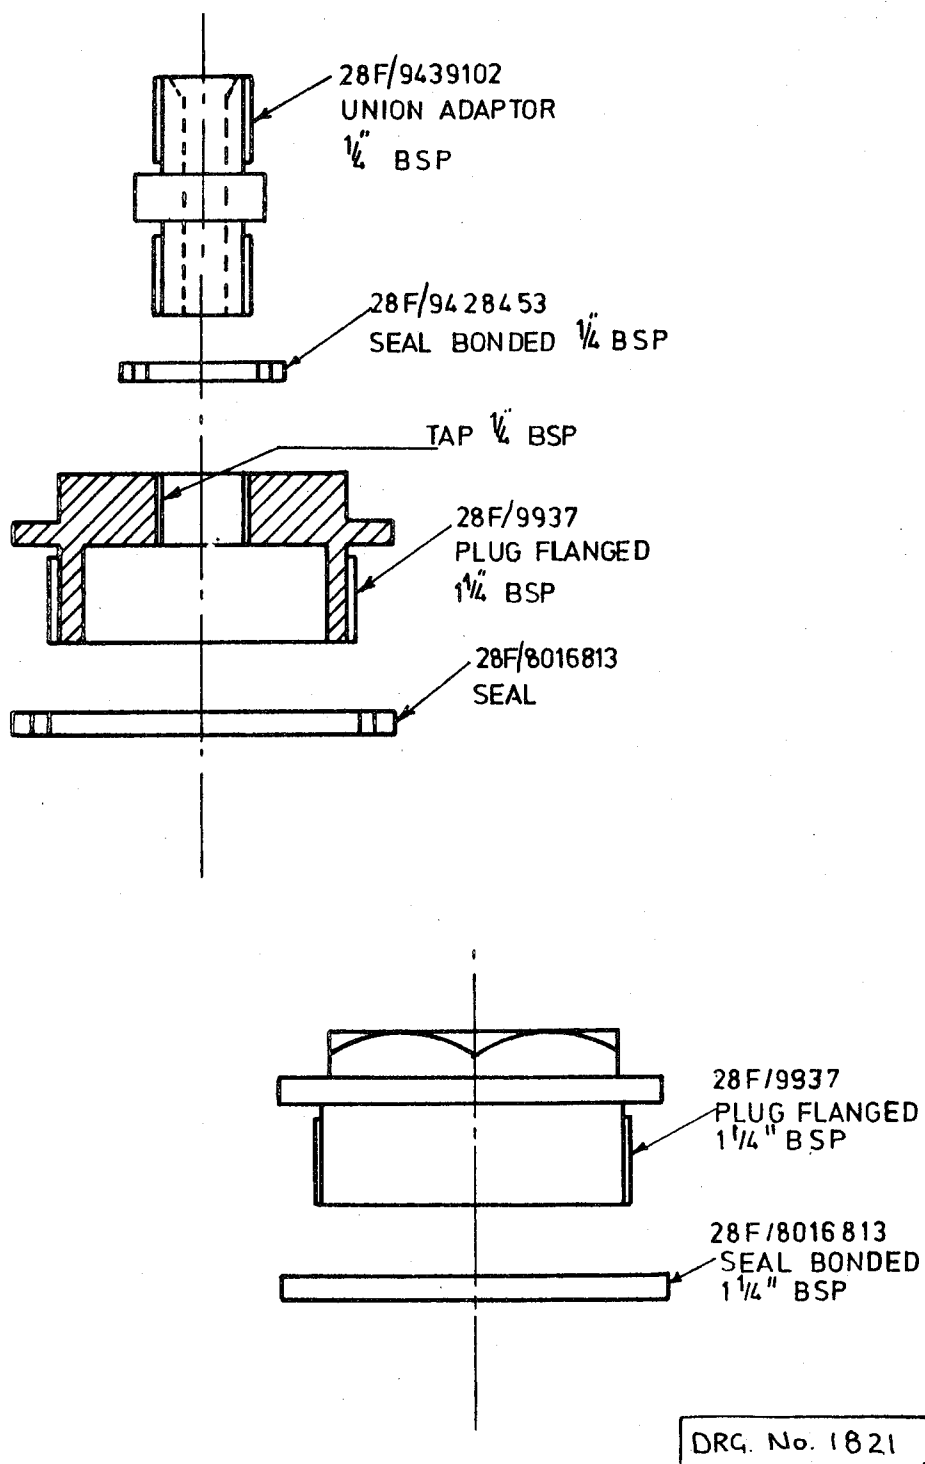

Fig. 2 Test adapter and blank
9.3 Fuel connection. Fit test blank. (Fig 2).
9.4 Adapter. (Fig 2). Fit to tank air connection.